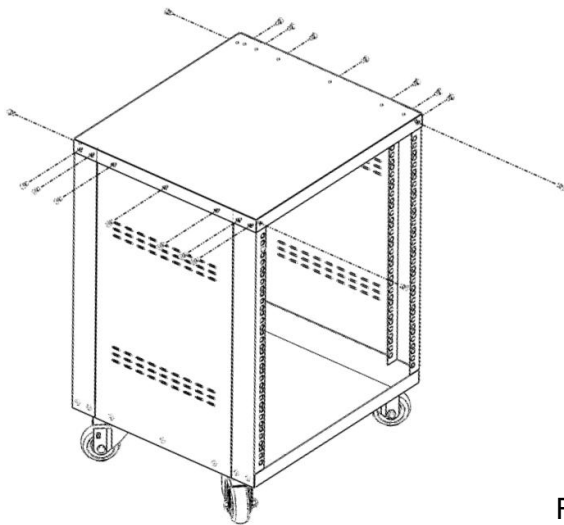

Figure 4
4. Put Top Panel on the top of the rack, Align the Top Panel with Corner Support and Side Panel, Secure with 18pcs M5 Cross Head Screws by electrical screwdriver. See Figure 4.